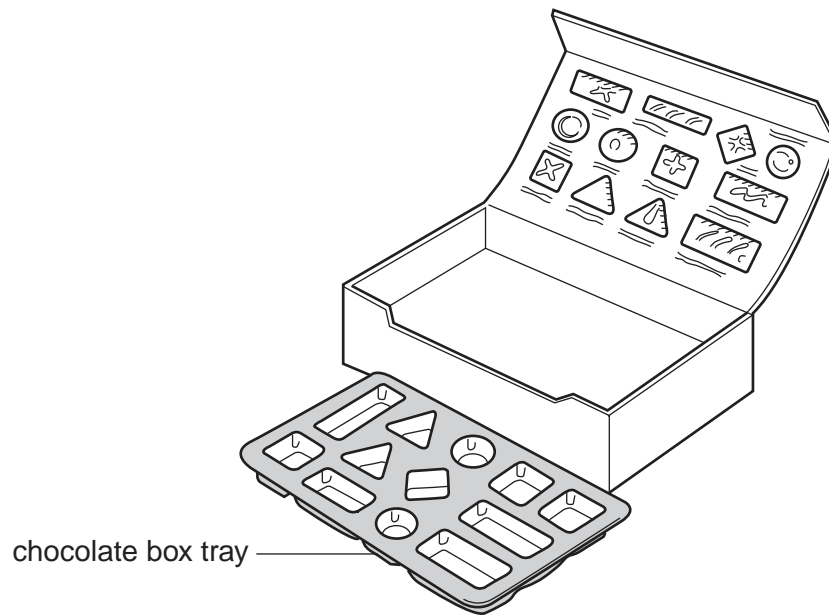

Fig. 2
- 4 The chocolate box tray shown in Fig. 2 has been produced by vacuum forming.